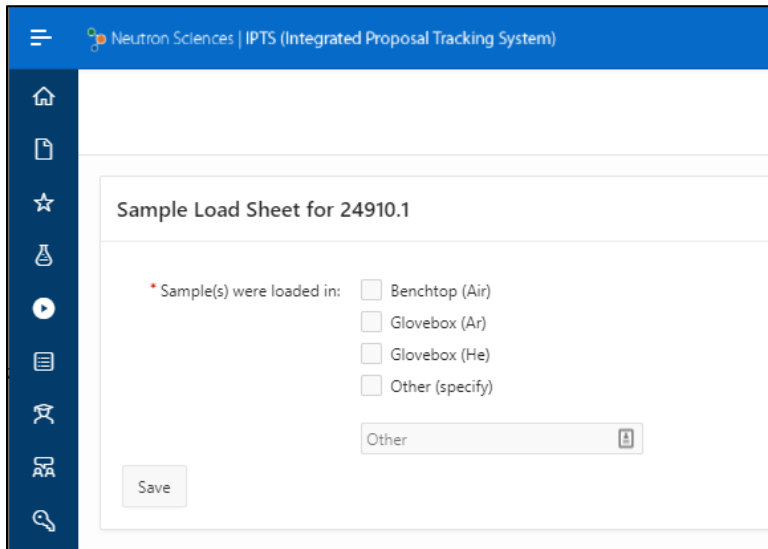

Figure 3. Top box of the Sample Loading Sheet, asking in what gas atmosphere the samples were loaded.
- In the top box of the Sample Load Sheet (Figure 3), select what conditions you loaded the sample cans in, whether in air on a benchtop, in an Ar- or He-filled glovebox or some other gas atmosphere. Then click the grey “Save” button. This information is needed to help instrument staff determine whether your sample cans need to be backfilled with helium.